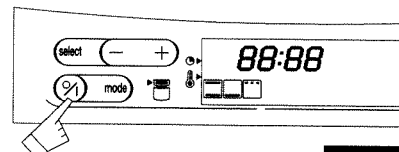

Fig. 1
1. Press the  touch control (fig. 1). All the functions are displayed and flash.